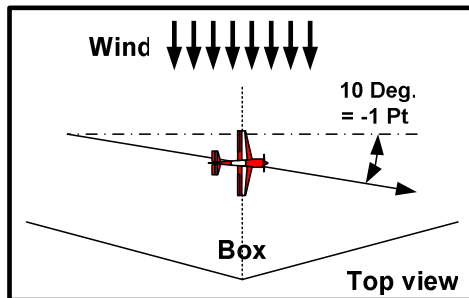
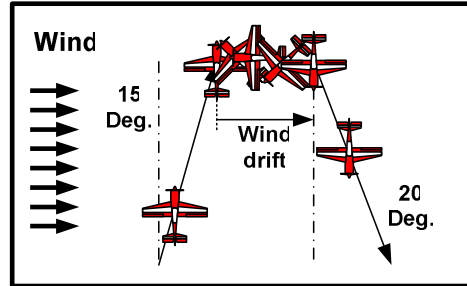

Fig. 6
Fig. 7
Wind correction should be used throughout the aerobic box. Any drift observed on any line (horizontal, 45 degrees or vertical) should be downgraded using the one (1) point per ten (10) degree rule (Fig. 6). For instance, in the case of a hammerhead performed with a severe cross wind, the vertical line will start directly after the ¼ loop. This is the first point of reference to be used for the upline. The flight path on the way up is 15 degrees off compared to the perfect vertical up line; the downgrade should then be 1.5 points. When the aircraft starts its hammerhead, it is in a stalled condition and no downgrade should be applied for wind drift during that time. Once the rotation is complete, a new reference point should be established for the perfect vertical downline. If the flight path on the downline is 20 degrees off, the downgrade should then be 2 points (Fig. 7).